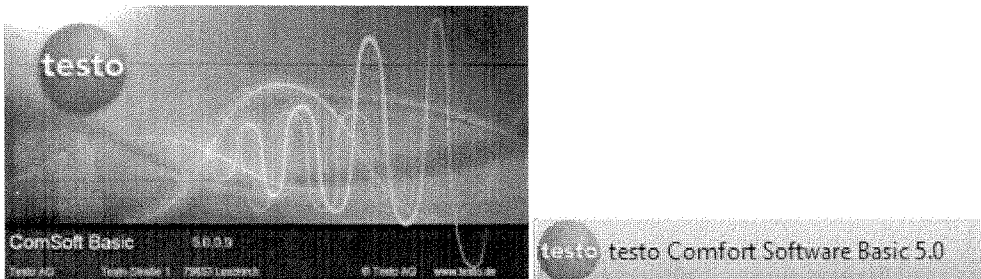

Fig 5.4: Testo Comfort Software basic 5.0 shortcut
Step 2: Open TESTO Comfort Software basic 5.0 using shortcut on your desktop (refer fig. 5.4).